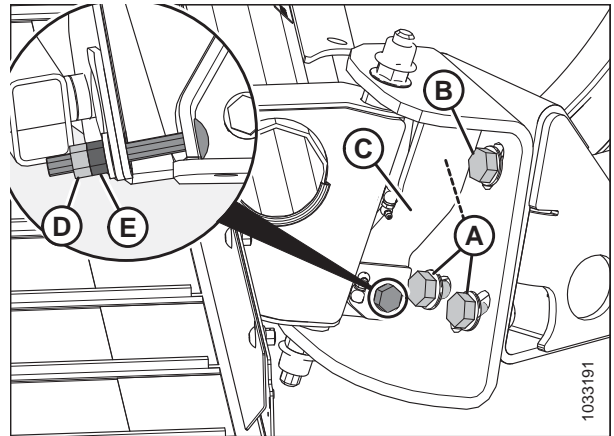

Figure 3.16: Deck Pivot
1. Loosen LONGER bolt (B) (MD #136157) and three SHORTER bolts (A) (MD #136082).
One of shorter bolts (A) is hidden behind bracket (C) and is not shown in Figure 3.16, page 59.
2. Loosen jam nut (D).
3. To INCREASE distance between the ground and the deck, tighten nut (E).
4. To DECREASE distance between the ground and the deck, loosen nut (E).
5. After adjustment, tighten jam nut (D).
6. Torque bolts (A) and (B) to 332 Nm (245 lbf-ft).